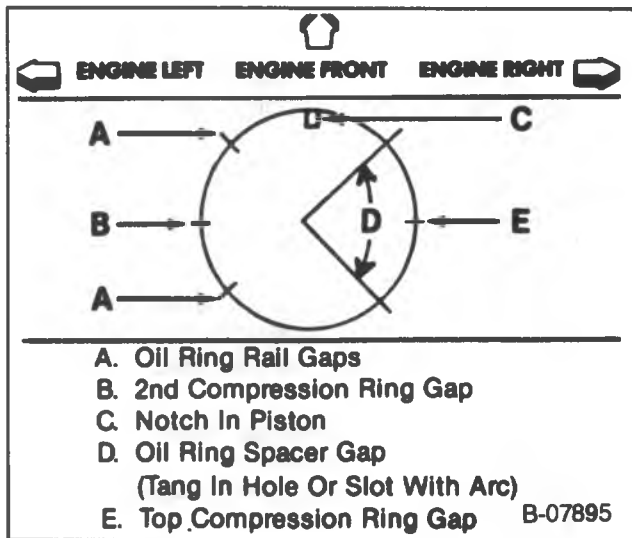

Figure 28 — Piston Ring End Gap Locations
- Locate the piston ring end gaps as shown in figure 28. Lubricate the piston and rings.
- The piston must be installed so that the notch in the piston faces the front of the engine (figure 28).